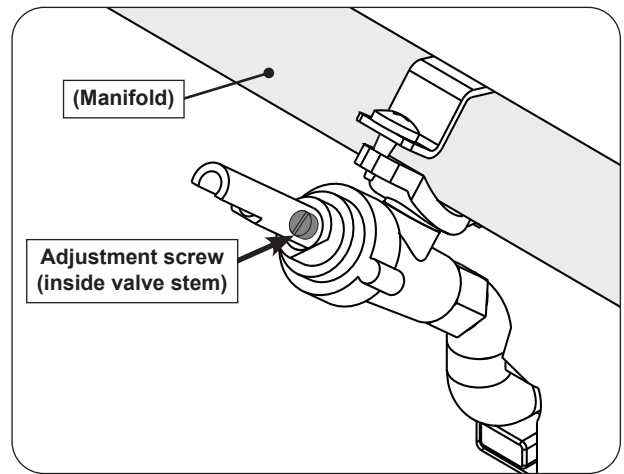

Fig. 44-1 Valve adjustment screw location
4. Locate the FLATHEAD adjustment screw found inside the valve stem (see Fig. 44-1).